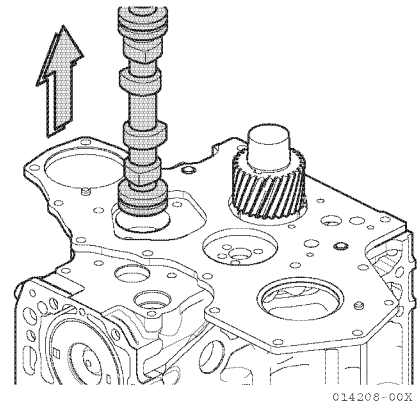

Figure 5-49
- 43. Remove the camshaft (Figure 5-49):